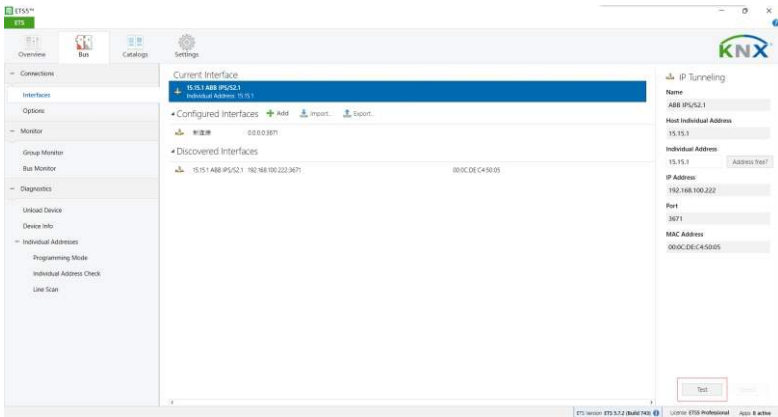

Figure 18
2.5. Click to choose the interface under “Current Interface” as shown in Figure 18.